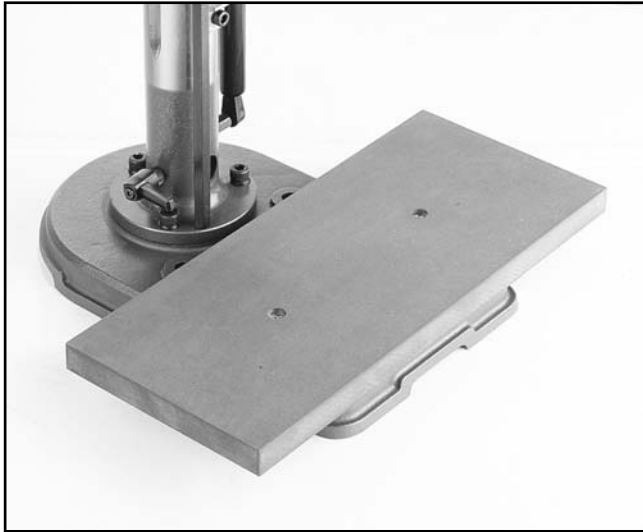

Figure 3.
1. Position the wood table on the base and secure with two screws provided. **Figure 3.**